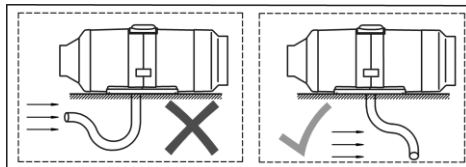

Fig. 5 – Position of air intake/exhaust pipe
When laying the air intake pipe, avoid sharp bends and do not obstruct the opening of the air intake pipe with foreign objects. Make sure its opening is pointing downwards (see Fig. 5). If
The outlet of the exhaust pipe must be installed **pointing downwards (Fig. 5)**, but it should be in such a position that would prevent clogging or entering of snow and dirt, and also provide for free drain of any water that got into it.
**Do not place the output opening of the exhaust pipe in front of the incoming airflow of the moving vehicle or vessel (see Fig. 5).**